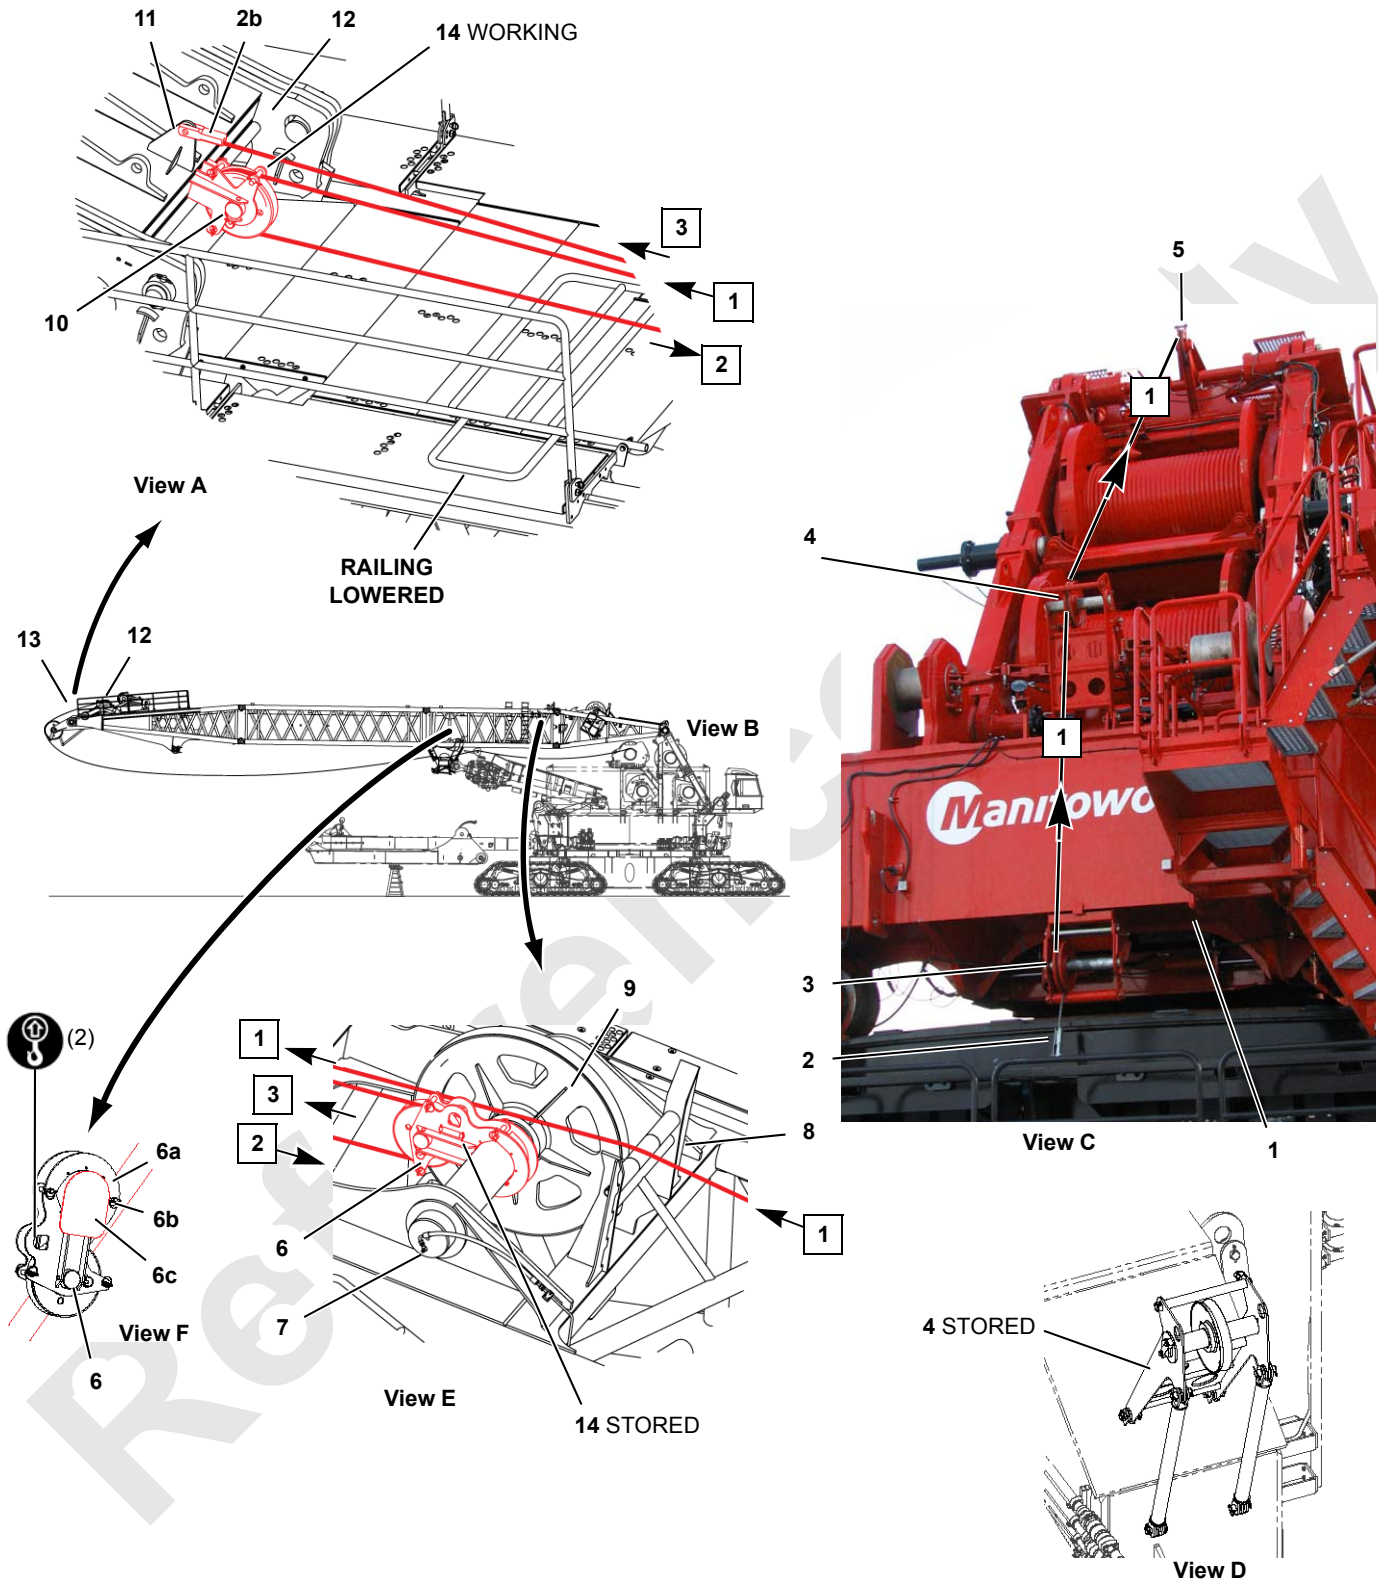
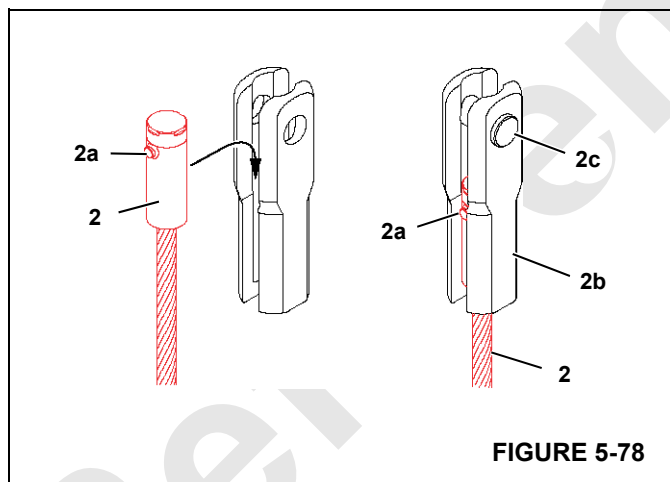

Figure 5-77
FIGURE 5-78
Legend for Figure 5-77 and Figure 5-78
See Figure 5-77 for the following steps.
- Over shaft (7, View E) in the mast butt. **Do not route the rigging line over sheave (9).**
- Over guide sheave (6, View E) to lug (11, View A) on equalizer (12).
10. Attach the rigging line to lug (11, View A) with button socket (2a, Figure 5-78).
11. Remove pin (14, View E) from storage on wire rope guide (6) and install the pin over guide sheave (10, View A).
13. Using the assist crane, lift equalizer (12, View B) off rails (16) and (11) while paying out the rigging line. Hold the equalizer 2-3 ft (0,6-0,9 m) above the mast.
22. Move wire rope guide (4, View D) to the storage position on the right end of the front roller carrier (Figure 5-77, View F).
23. Move wire rope guide (6, View C) from the working position to the storage position (Figure 5-77, View F).